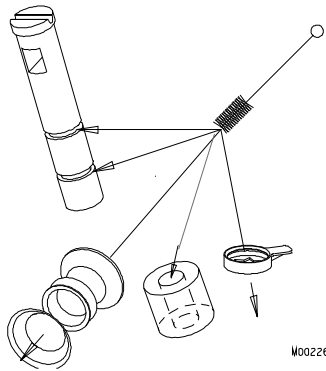

Figure 7-7 Clean shaft seal, bushing, plunger, nozzle and float
c. the shaft seals, washer, plunger O-ring grooves, nozzle and float (figure 7-7)